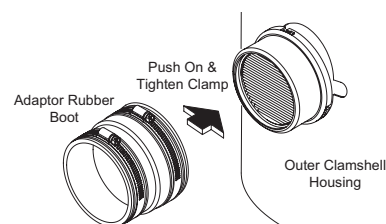

Figure 14. Adapter Rubber Boot
- To connect heater to the air inlet, use the vent adaptor rubber boot provided in the base skirt. The adaptor rubber boot is designed for 3" venting (Figure 14).